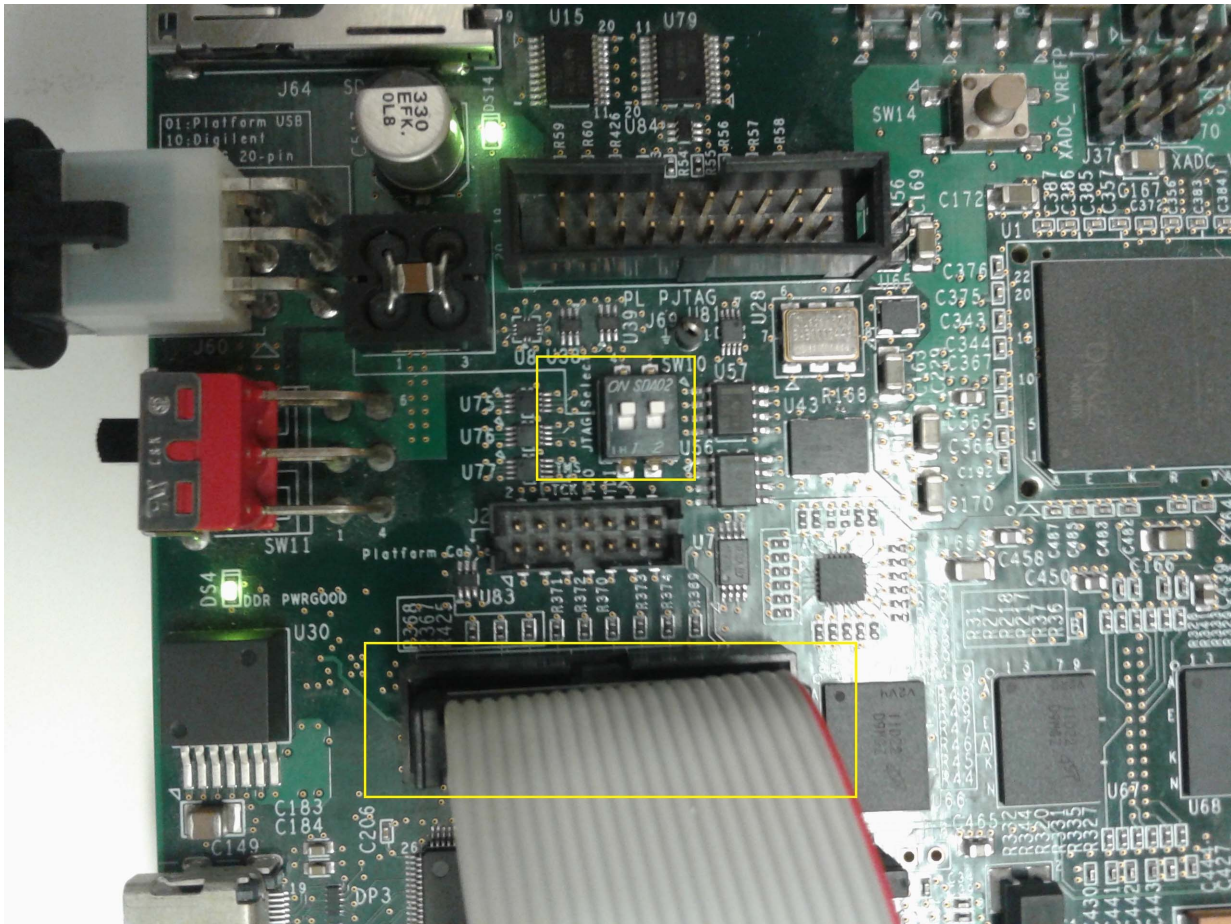

Figure 8: Debug Setup (on ZC702 Board)
1. Configure the JTAG chain as appropriate for your Zynq device board configuration. For example, on the ZC702 board, the JTAG chain must be configured in Cascade mode and mapped to J58. This is achieved by setting (SW10) as shown in shown in Figure 8, below.